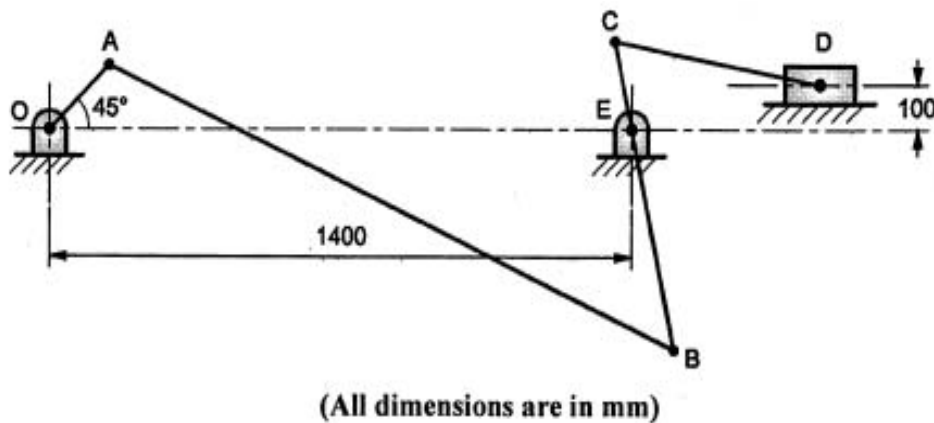

Fig. 2
b) Find velocity of D and angular velocity of link AB, for the mechanism shown in Fig. 2 various dimensions are : $OA = 200$ mm, $AB = 1500$ mm, $BC = 700$ mm, $CD = 500$ mm, $BE = 500$ mm. Assume crank OA rotates uniformly at 150 rpm clockwise.